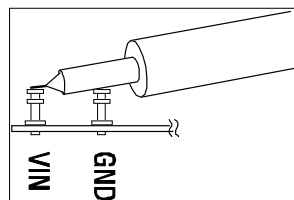

Figure 2. Measuring Input or Output Ripple
NOTE: When measuring the input or output voltage ripple, care must be taken to avoid a long ground lead on the oscilloscope probe. Measure the input or output voltage ripple by touching the probe tip directly across the Vin or Vout and GND terminals. See the proper scope probe technique in figure 2.
5. Set the load current of both outputs to 3A and the input voltages to 20V, and then measure each output ripple voltage (refer to figure 2 for proper measurement technique); they should each measure less than 30 mVAC. Also, observe the voltage waveform at either switch node (pins 23 & 24 for reg.1 and 13 & 14 for reg.2) of each regulator. The switching frequencies should be between 800 kHz and 1.2 MHz ($T = 1.25 \mu\text{s}$ and $0.833 \mu\text{s}$). To attain 2 MHz operation, change the shunt position on header JP14. In all cases, both switch node waveforms should be rectangular in shape, and 180° out-of-phase with each other. Change the shunt position on header JP11 to set the switch waveforms in phase with respect to each other. To operate the ckt.s in Burst Mode™, change the shunt in header JP8 to the Burst Mode™ position. When finished, insert shunts XJP1 and XJP2 to the OFF position(s) and disconnect the power.